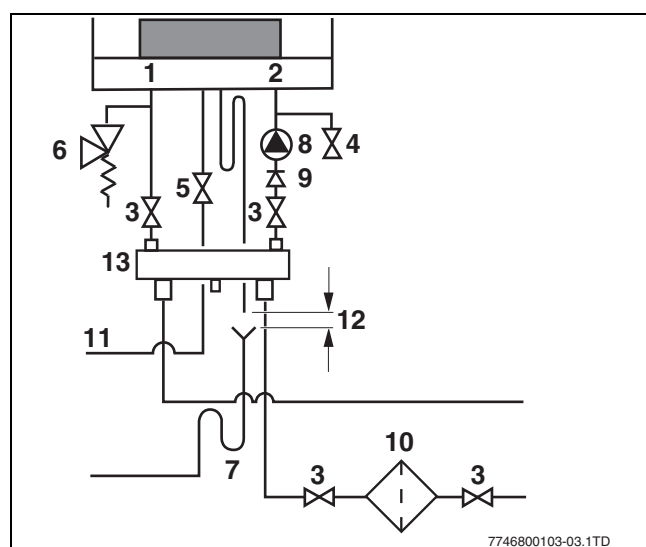

Fig. 13 Connecting the boiler supply and return
- ▶ To prevent contamination in the heating system we recommend you integrate a dirt filter (→ fig. 13, [10]) in the return pipe, near the boiler. In an old system it is a requirement to install a dirt filter. Also install shutoff valves to enable filter cleaning immediately upstream and downstream of the dirt filter (scale cartridge or y-strainer)
- ▶ Connect the supply pipe with a flat rubber seal installed to the Supply connection (→ fig. 13, [1]) making sure it is not under stress. Use a supply pipe with a minimum diameter of 1½" (38 mm).
- ▶ Connect the return pipe with a flat rubber seal installed to the Return connection (→ fig. 13, [2]) making sure it is not under stress. Use a return pipe with a minimum diameter of 1½" (38 mm).
- ▶ Install the pump (→ fig. 13, [8]) in the return circuit (→ fig. 13, [2]).